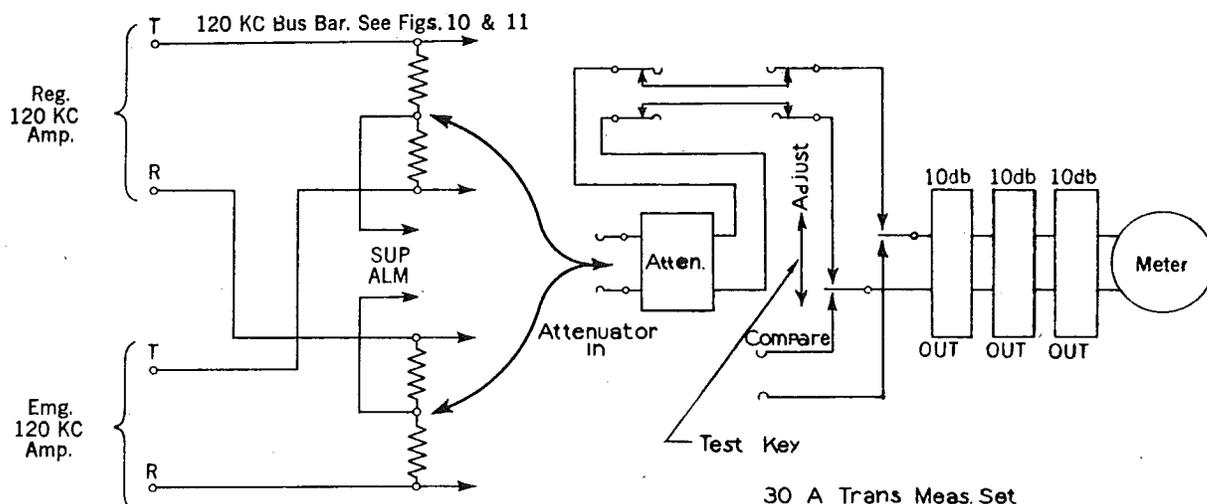

Fig. 13 - Check of Carrier Supply Transfer Circuit
3.41 Procedure - Automatic Operation - K and Combined J2 & K Supplies - See Fig. 13:
3.43 Procedure - Manual Operation - K or Combined J2 & K Supply - See Fig. 13: